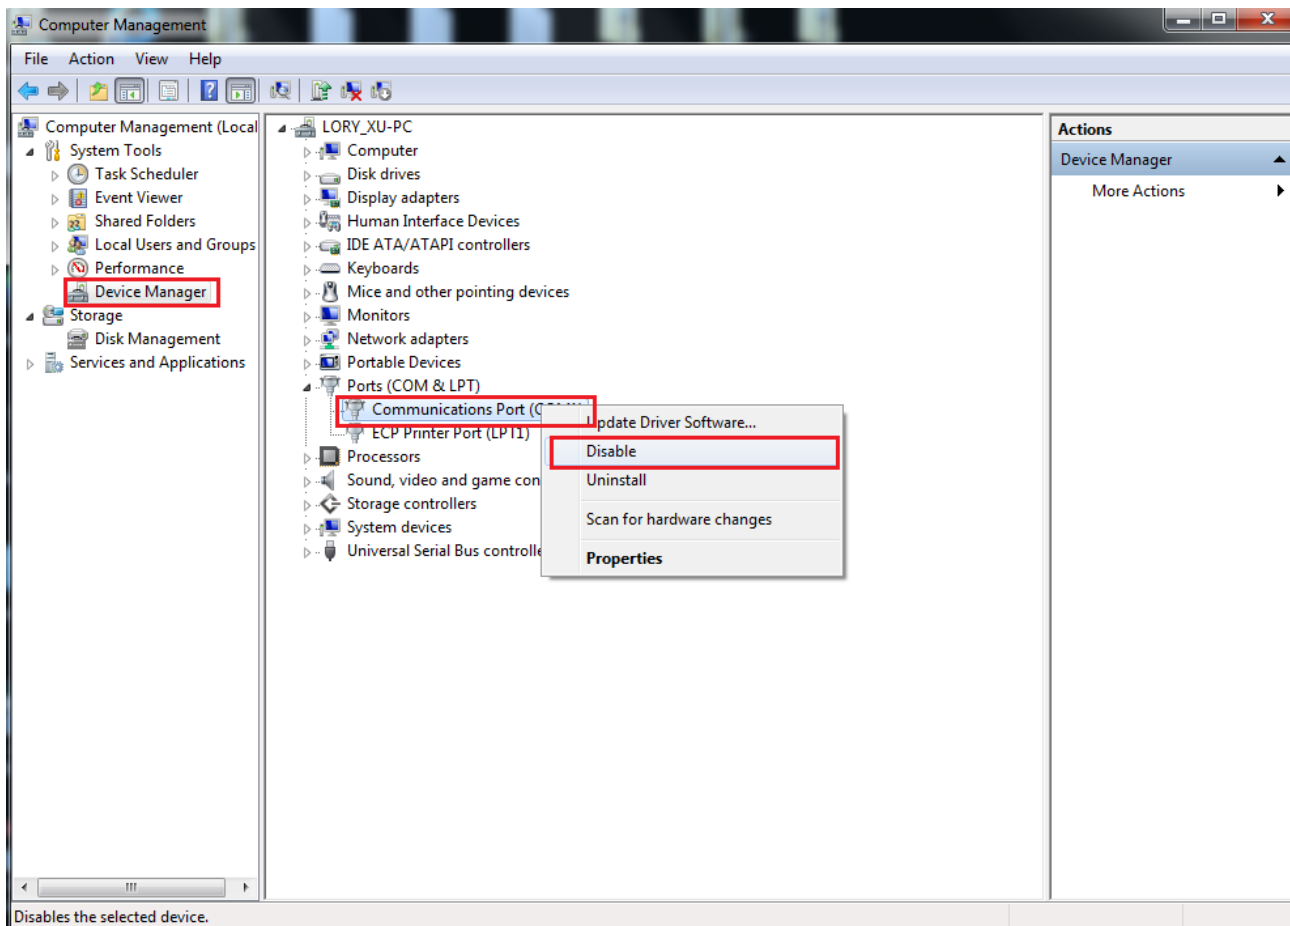

Figure 3-2 Forbid Irrelevant COM
- 2) As is shown in Figure 3-2, “Computer management” -> “Device manager” -> Forbid other irrelevant COM ports in “Ports”